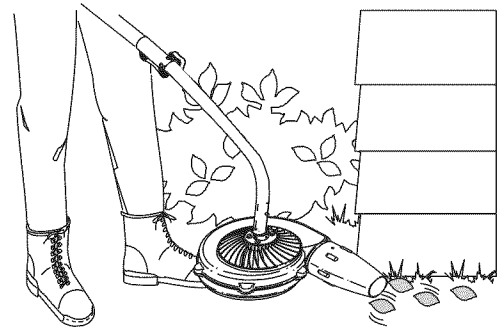

Fig. 8
- Use the concentrator nozzle for hard to reach places, such as corners in a garage, or to control dust in a dust-laden environment (Fig. 8).